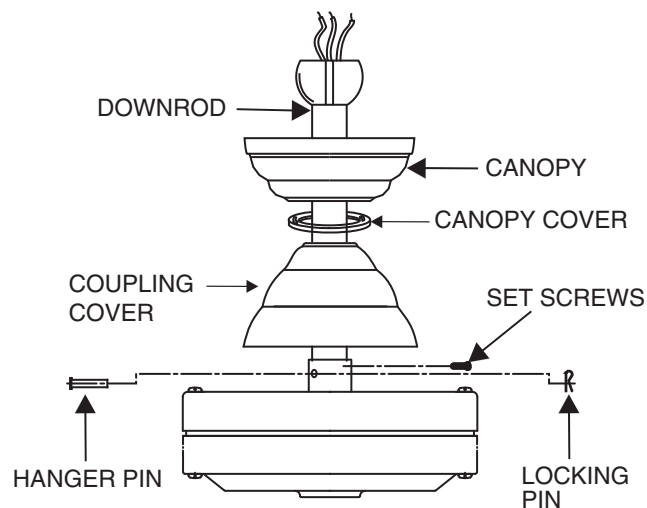

FIGURE 7
6. Route wires exiting from the top of the fan motor through the coupling cover, canopy cover and canopy, then through the ball / downrod. (Fig. 7)
7. Align the holes at the bottom of the downrod with the holes in the collar on top of the motor housing (Fig.7). Carefully insert the hanger pin through the holes in the collar and downrod. Be careful not to jam the pin against the wiring inside the downrod. Insert the locking pin through the hole near the end of the hanger pin until it snaps into its locked position, as noted in the circle inset of Fig. 7.
8. Tighten two set screws on top of the fan motor firmly. (Fig. 7)